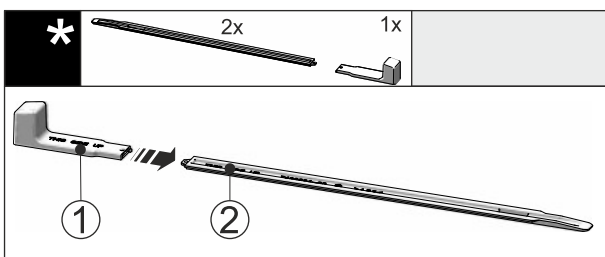

Fig. 42
- ▶ Attach the installation handle Fig. 42 (1) to the levelling rail Fig. 42 (2).